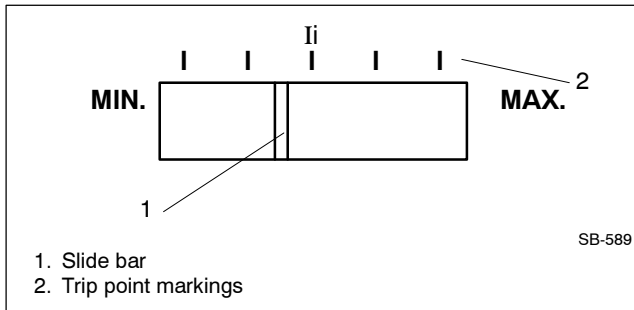
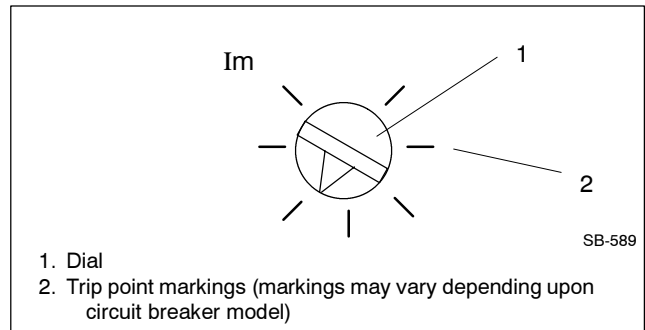

Figure 8 Slide Bar Type Circuit Breaker Instantaneous Overcurrent Trip Adjustment
Figure 9 Dial Type Circuit Breaker Instantaneous Overcurrent Trip Adjustment
- 2.2 Locate the instantaneous overcurrent trip adjustment. The adjustment appears as either a rectangular opening with a slide bar directly below the circuit breaker handle or a dial type adjustment located near the circuit breaker handle. See Figure 8 and Figure 9.